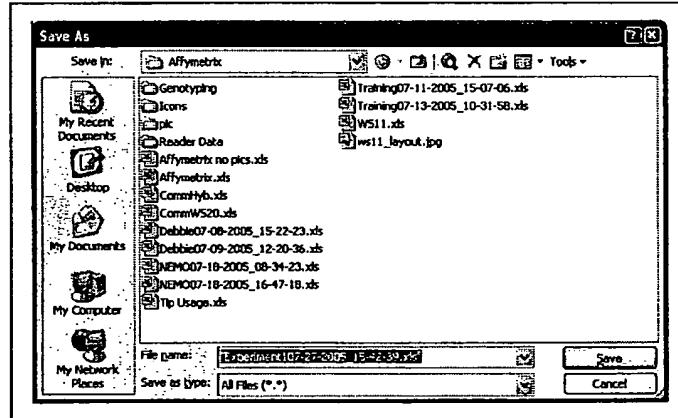

Figure 4.30
A. The selected options are recorded and Affymetrix.xls is saved as "user or expt name date_time stamp.xls." Refer to Figure 4.30.